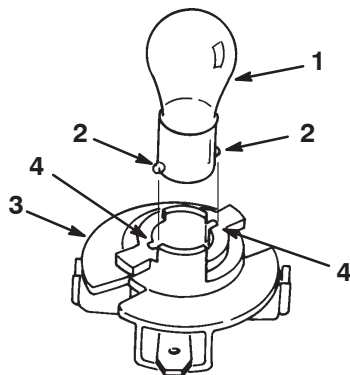

Figure 32
5. Push and rotate the bulb counterclockwise until it stops (approximately 1/4 turn) and remove the bulb from the bulb holder (Fig. 32).
1. The bulb has metal pins on the side of its base. Align the pins with the slots in the bulb holder and insert the base into the holder (Fig. 32). Push and rotate the bulb clockwise until it stops.